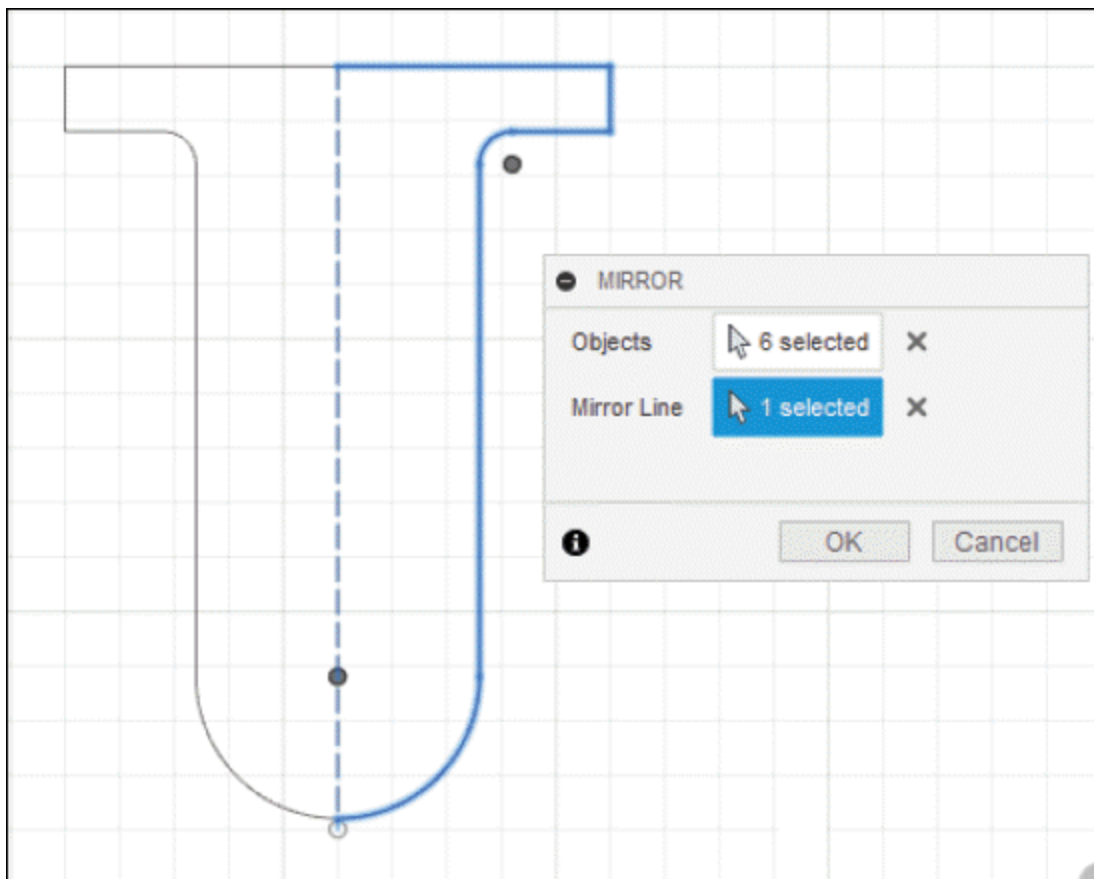

Figure-115. Entities selected for creating mirror
- Select the **Mirror** tool from **CREATE** drop-down and select all the entities we have sketched except construction line; refer to Figure-115.